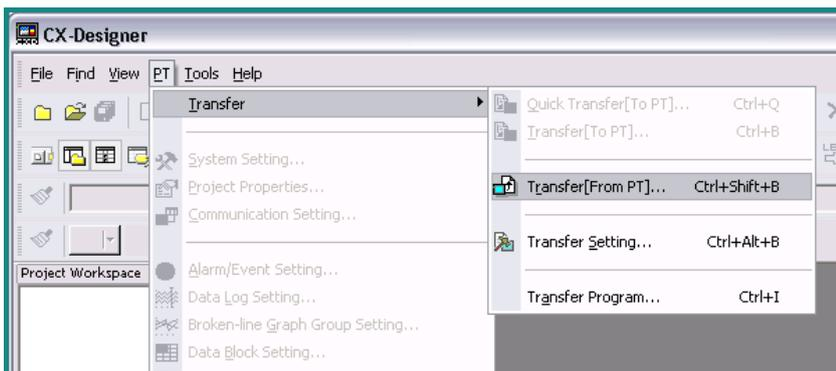

**Figure 13 HMI Web Interface Screen**
6. FINS Source Address – Network. Must be the same as the “Network Add” used in the HMI – See figure 13
7. FINS Destination Address – Network. Must be the same as the “Network Add” used in the HMI – See figure 13
8. FINS Destination Address – Node. Must be the same as the “Node Add.” used in the HMI – See figure 13